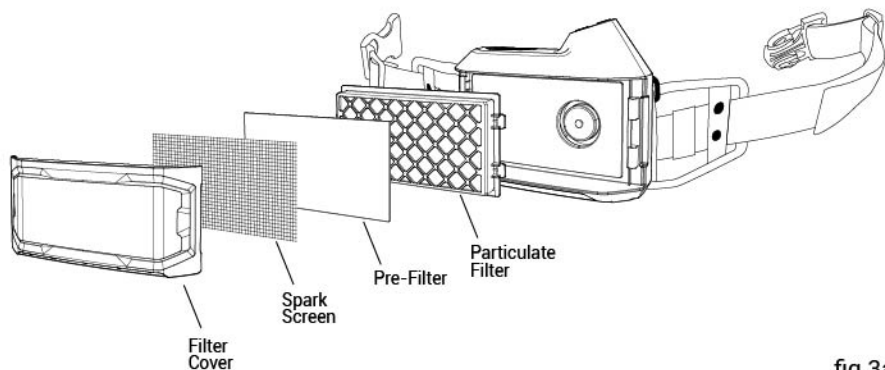

fig.3a
- The power must be turned off when replacing the filters. Install the spark screen, pre-filter, and particle filter in filter cover (Fig.3a).